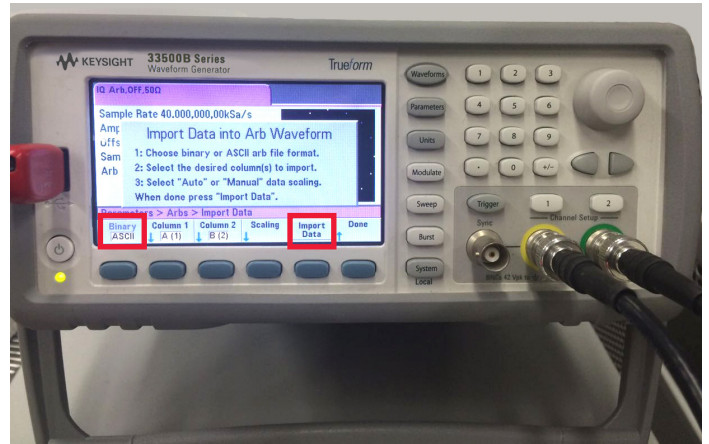

Figure 6.
- 2.5 Toggle to **ASCII Mode**, and select **Import Data** > **Yes** to load this .csv file. See Figure 6.